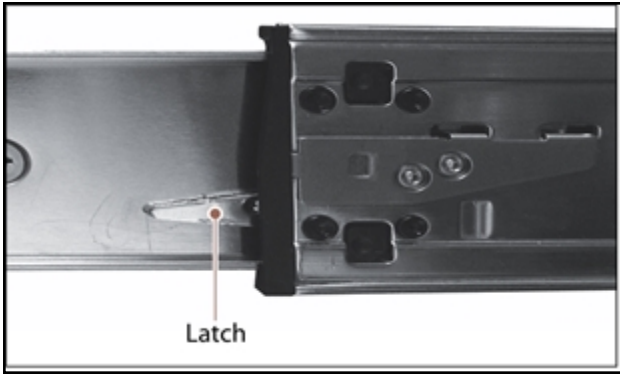

Figure 9 Self-locking latch.
3. Flip the rail assembly over so the outer rail is on top and the self-locking latch is facing you (see Figure 9).